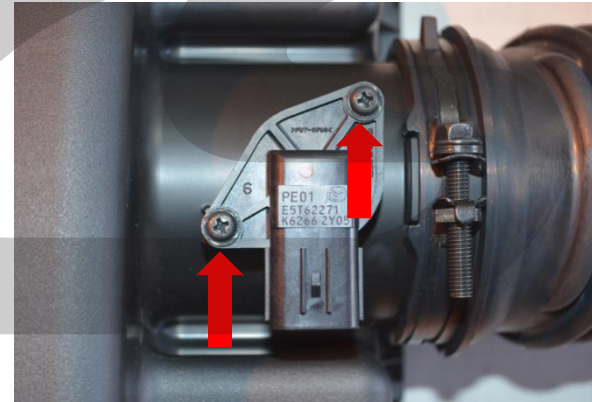

Figure 1h
- h) Remove MAF from factory air box with small phillips screw driver (Red arrows Figure 1h).
- h) Remove MAF Sensor from factory air box with small Phillips screw driver (Red arrows Figure 1h).